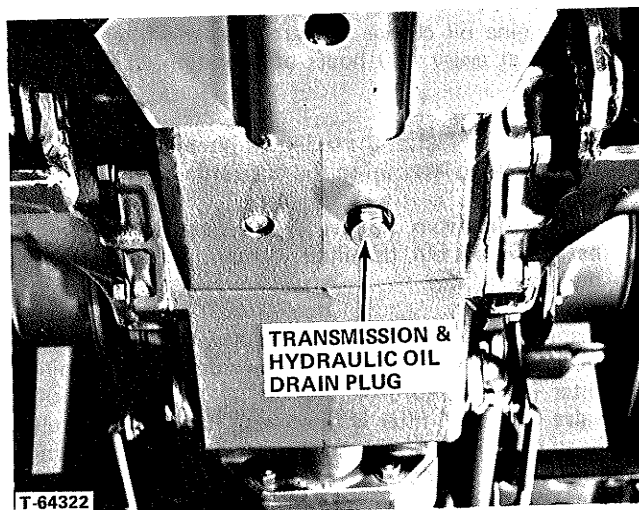

FIGURE 11 - Bottom View
1. Remove drain plug and drain oil from the transmission and hydraulic sumps (approximately 5.5 gals. (21 litres) in Model 5020 & 9523, 6.7 gal. (25.5 litres) in Model 5030 & 9528. (Figure 11).